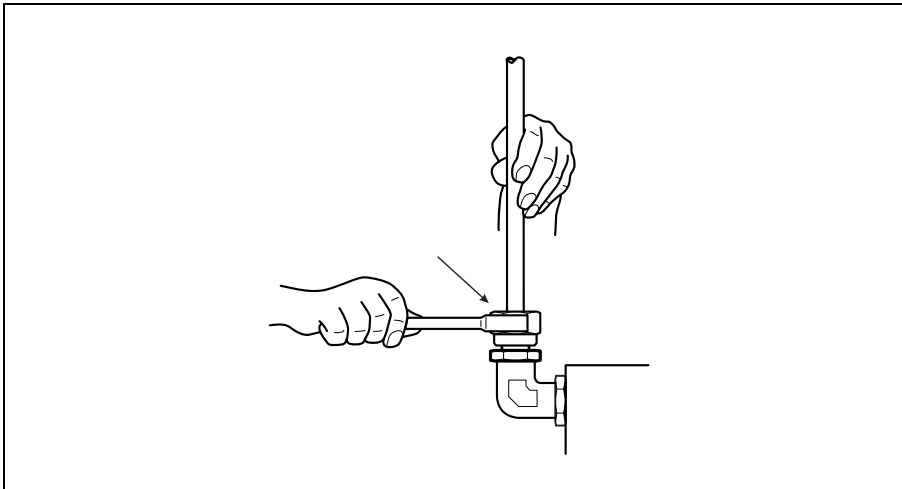

Figure 8.19 A mark on the nut simplifies the specified torque
4. The ring will now have gripped the pipe, and no longer needs to be pressed against the shoulder. Complete the fitting with an additional $\frac{3}{4}$ turn of the nut. A mark on the nut simplifies following the specified torque, see figure 8.19.